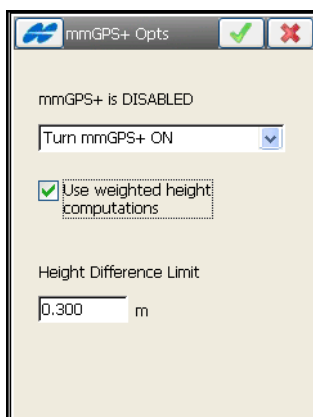

Figure A-22. Select mmGPS+ Options
2. On the *mmGPS+ Opts* screen (Figure A-22 on page A-14), select the following options:
- *Height Difference Limit* – enter a value here between the GPS result and the mmGPS result (Figure A-22).